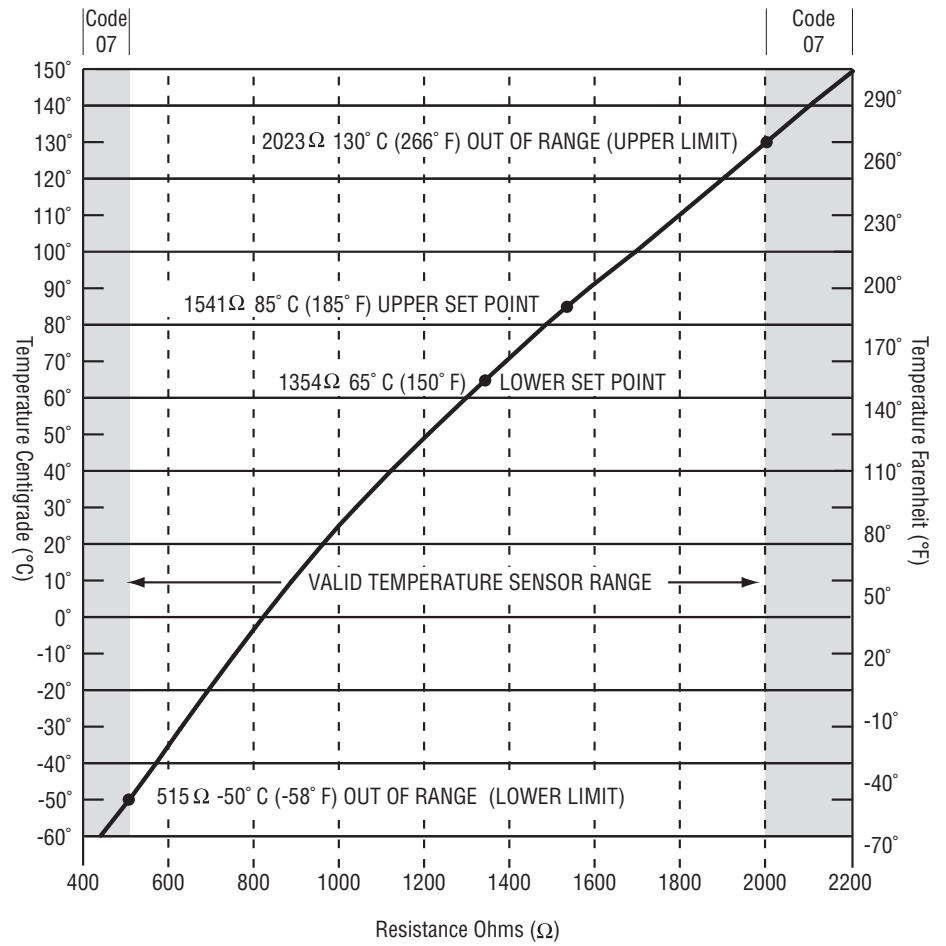

Figure 5-20 Coolant Temperature Sensor Graph
- b) Check resistance of sensor. Is it within range as shown in Figure 5-20. If it is within valid range and the PCM still displays code on start up, replace PCM.
- c) Compare the measured values against the graph (Figure 5-20). If values do not approximately match, then the sensor is defective and must be replaced.